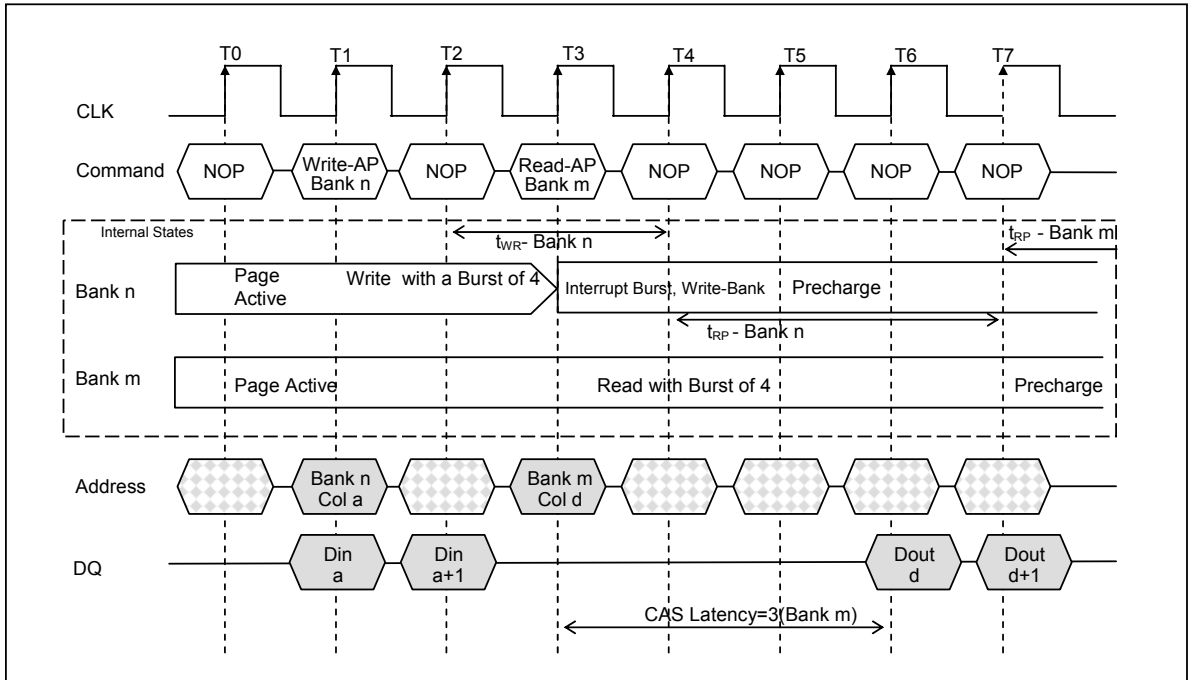

Figure 27. Write with Auto Precharge Interrupted by a Read with Auto Precharge (CAS Latency =3)
3. Interrupted by a Read (with or without auto precharge): A Read to bank m will interrupt a Write on bank n when registered , with the data-out appearing CAS latency later. The Precharge to bank n will begin after  $t_{WR}$  is met, where  $t_{WR}$  begins when the Read to bank m is registered. The last valid Write to bank n will be data-in registered one clock prior to the Read to bank m. (Figure 27. )